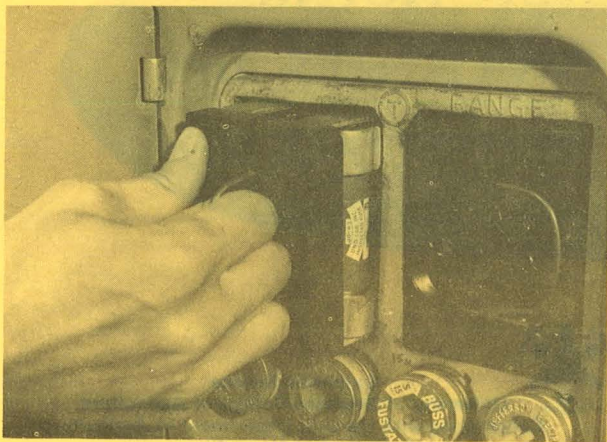

Figure 1
1. Shut the power off. In the fuse box, pull out the main entrance. This will disconnect the circuit you want to work on (Fig. 1).